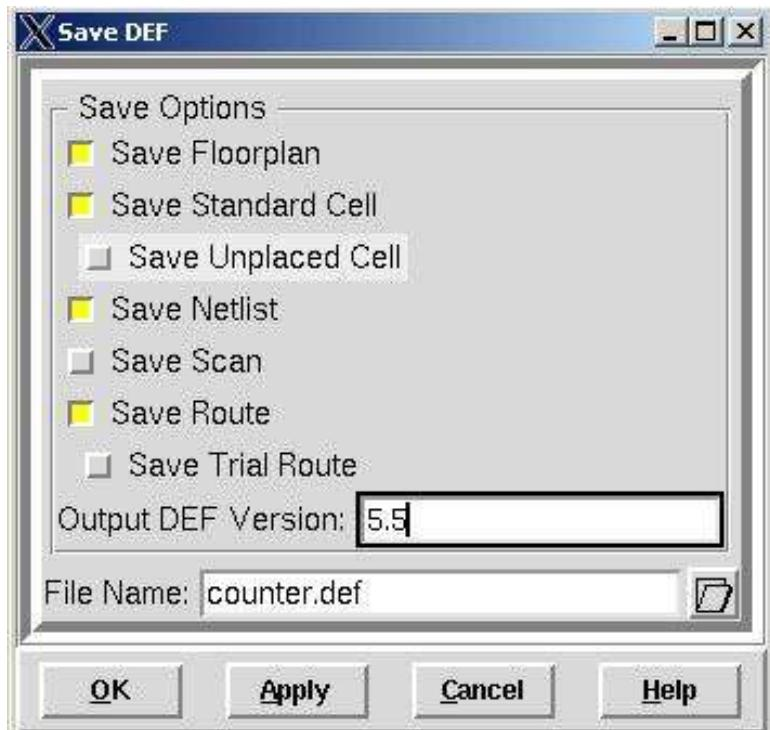

Figure 10.33: Dialog box for exporting DEF
**Exporting a DEF file:** In order to read the layout back in to **Virtuoso** so that you can run DRC and other tests on the data. The format that is used to pass the layout of the cell back to **Virtuoso** is called **DEF** (Design Exchange Format). You can export a **DEF** file by selecting the **Design → Save → DEF...** menu choice. In the dialog box (Figure 10.33) you can leave the default selections, but change the **Output DEF Version** from **NULL** to **5.5** so that you get the correct version of **DEF**. You can also change the file name to whatever you like.